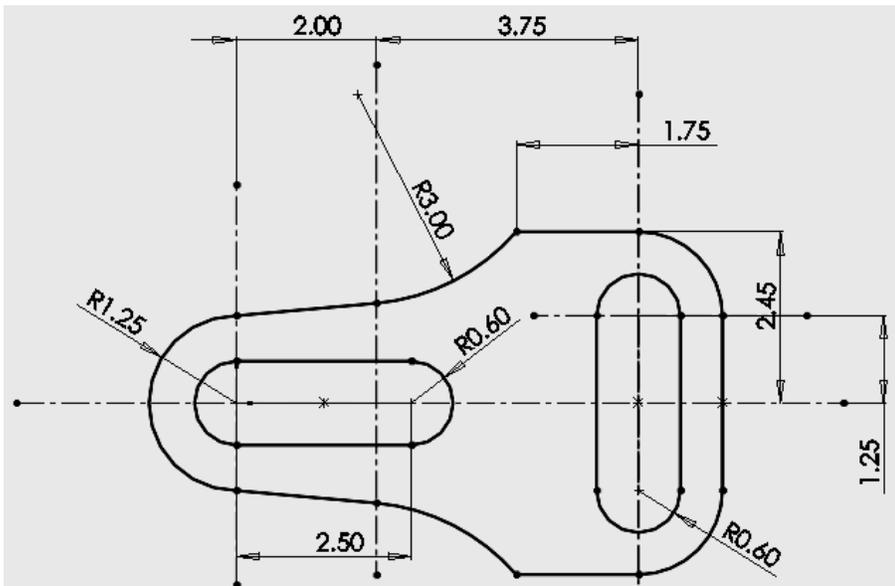

Figure P-3
- Use the given dimensions to redraw the given shape in Figure P-3. Create part models of the objects. Thickness = 20 mm